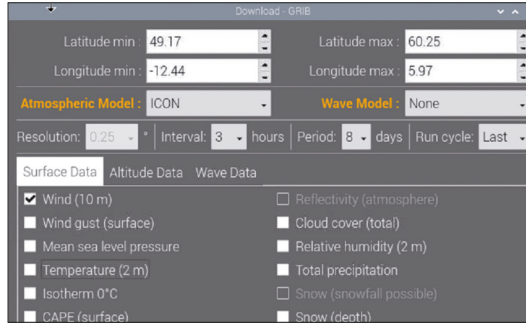

Figure 17.57: Select Wind.
- Select **Wind** under tab **Surface Data** (Figure 17.57).